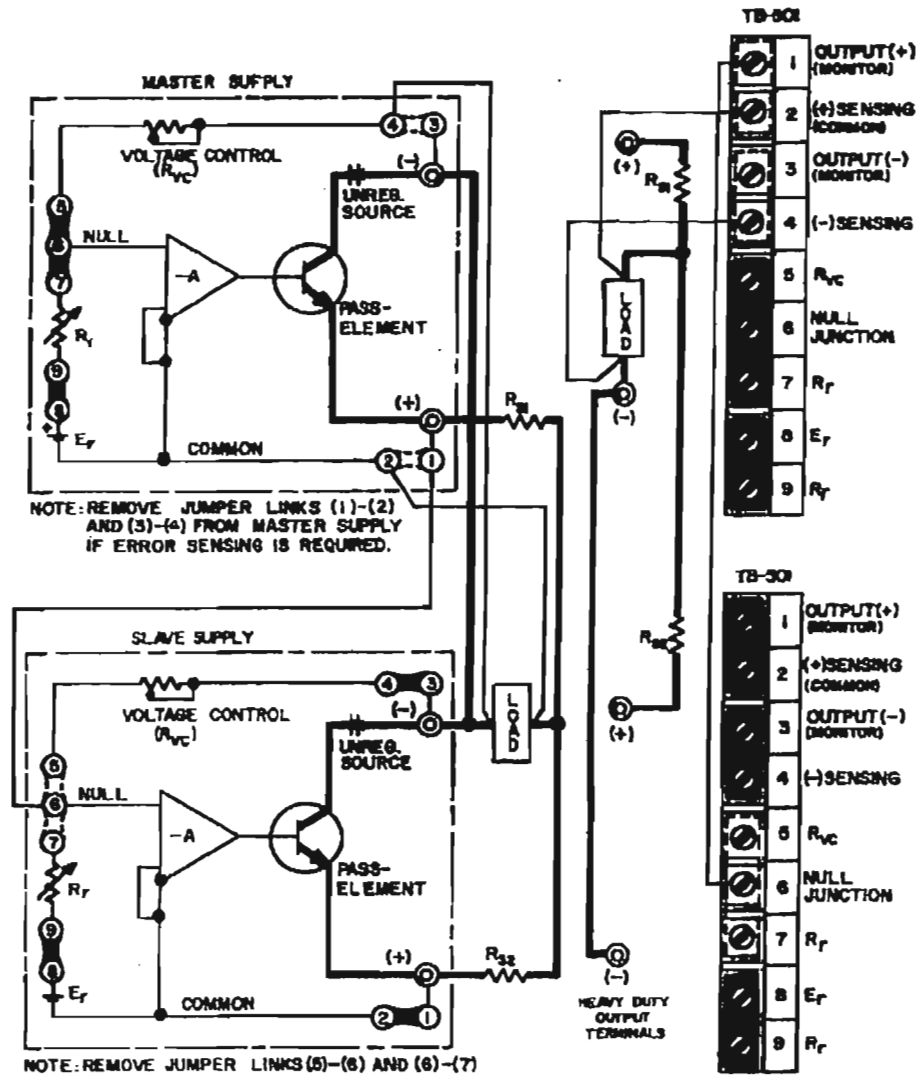

FIG. 3-14 MASTER SLAVE PARALLEL CONNECTION OF KEPKO POWER SUPPLIES
3-45 **MASTER/SLAVE PARALLEL CONNECTION.** Two power supplies are shown in FIG. 3-14, although more can be paralleled, each unit requiring its own sampling resistor. The sampling resistors ( $R_{S1}$ ,  $R_{S2}$  in FIG. 3-14) are of equal value and are selected such that the voltage drop across them (due to the output current), plus the voltage drop in the load connection leads does never exceed 0.5 volts. If the voltage drop across the load connecting leads alone is at least 0.1 volt, the sensing resistors can be deleted since the leads provide the necessary sample voltage. For equal current sharing, however, the lead *length* and *diameter* should be the same for both power supplies. Output control is exercised from the "Master" supply.
3-46 PROCEDURE FOR "MASTER/SLAVE" PARALLEL OPERATION (See FIG. 3-14)
- 2) Make all load and sensing connections as shown in FIG. 3-14. The error sensing connections may be deleted if the minor voltage drop across the load wires (which subtracts from the available compliance voltage) can be tolerated.